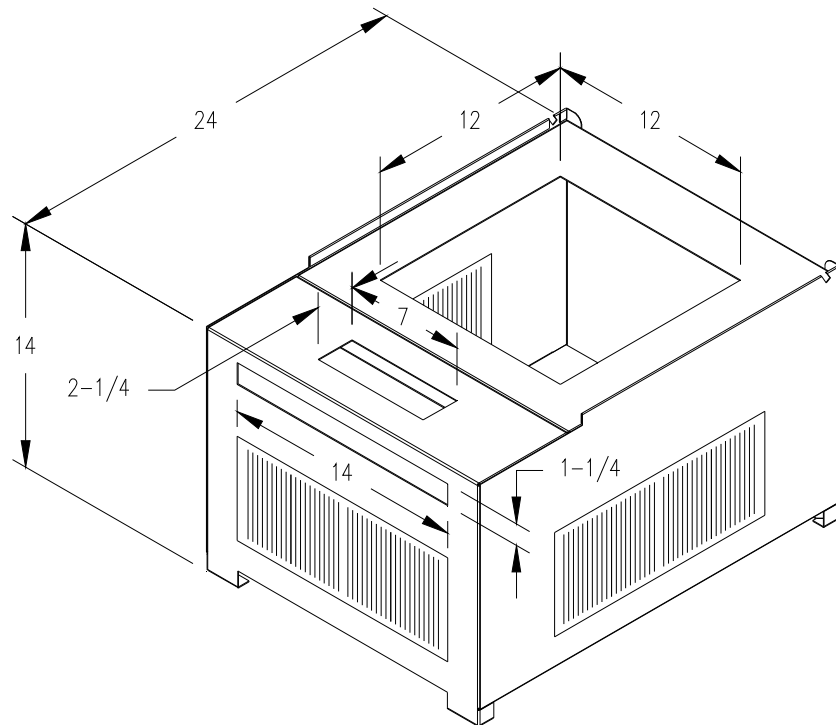

Figure 1C.
3. Model VMA3 furnace may be installed on a combustible floor when utilizing either the No.V70-BASE counterflow floor base or VE113S / VE213T coil cabinet for below the floor duct systems, or the cottage base for floor level air distribution. See Figure 1A for description of Combustible Floor Base and Figure 1C for Cottage Base.
The VCOT-BASE cottage base (Figure 1C) is required for a freestanding cottage base installation. The cottage base allows the two sides and rear to have an 8" x 12" register installed. **IMPORTANT: All joints and seams of supply ducts must be sealed with a sealing method suitable to the application conditions and temperatures (I.E. High temperature silicone and/or aluminum tape).** Refer to assembly and installation instructions included with cottage base for additional information.